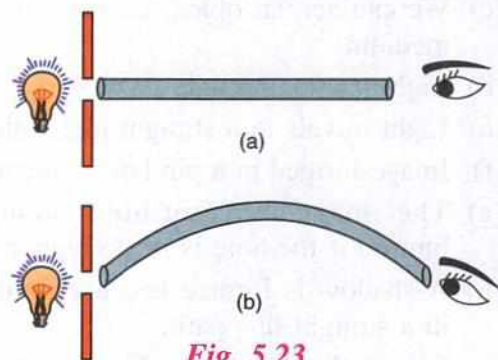

Fig. 5.23
- In which of the following two arrangements (a) and (b) shown in Fig. 5.23, you can see the light of the bulb ? Explain your answer.